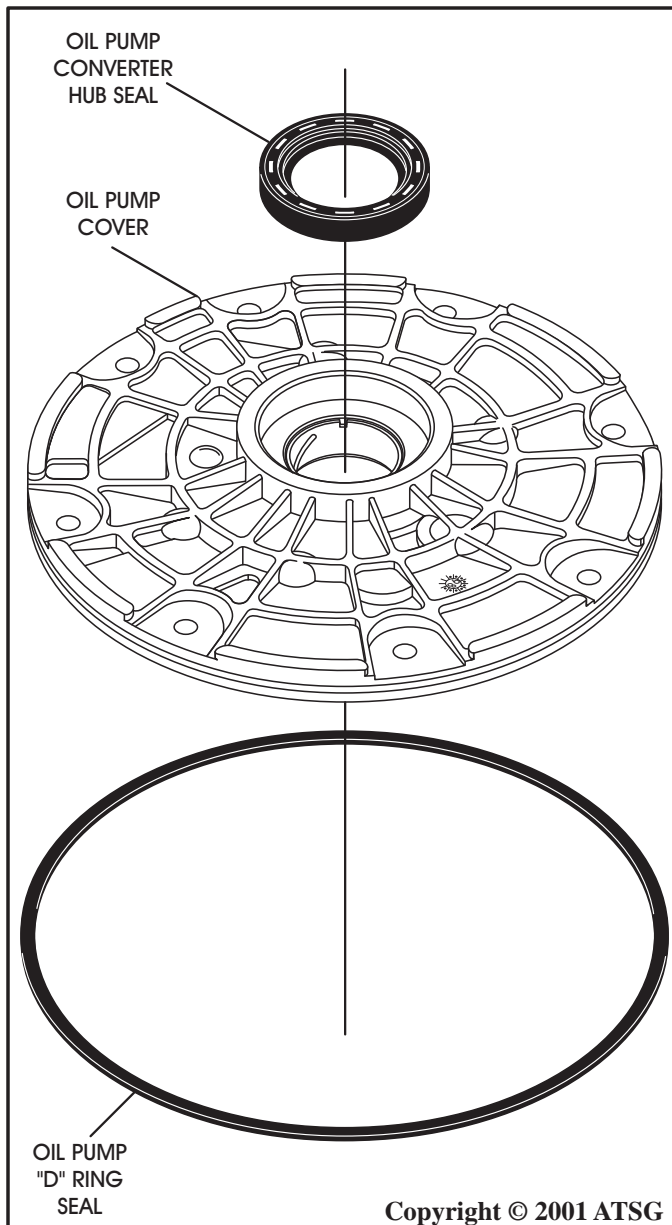

Figure 58
11. Install a new converter seal into the oil pump cover using the proper seal driver, as shown in Figure 58.
12. Install a new "D" ring seal into outer groove of the oil pump cover, as shown in Figure 58.